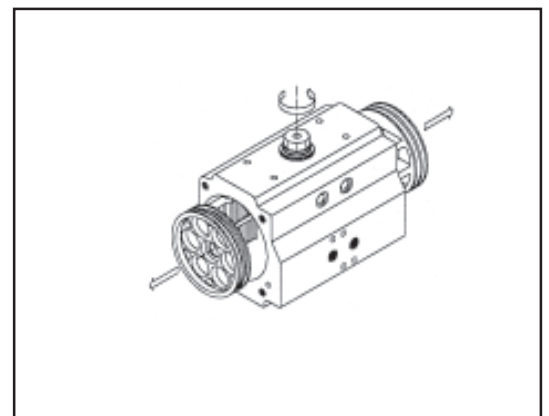
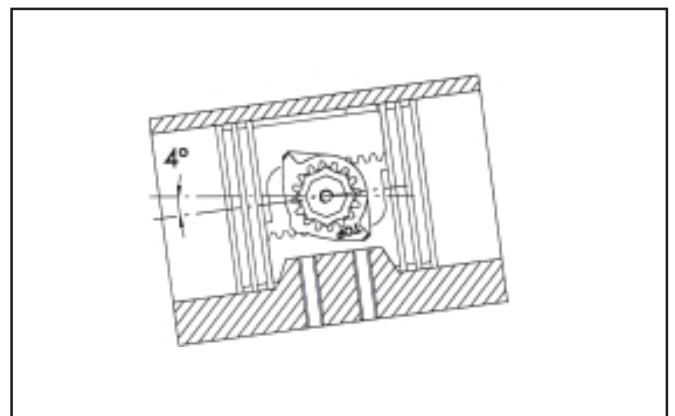
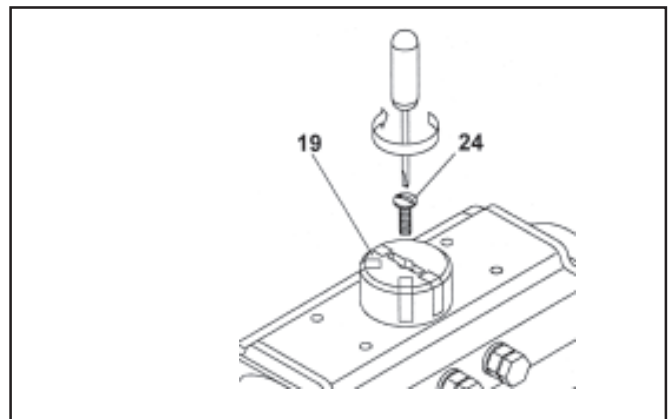

Fig. 18
Fig. 25
Fig. 30
(Figure 18)
Check fullyclosed and open positions as shown in figure 25.
(Figure 30)
- Remove position indicator (19) from stem.
- Remove both position bolts (2) with spacer (4) and nut (3).
- Remove seal rings (11).
- Remove bolts (13) from end caps.
- Remove spring sets (17) (only for spring return actuators).
- Remove end cap seal rings (14).
- Fit act. body (29) in a vice or similar, turn stem (30) until pistons (25) have left the act. body (Fig. 18)
- Turn both pistons (25) 180° around axial assle
- Press both pistons (25) in basic body (29) at the same time until piston have reached there end position
- Check that stem has turned 4° over center position (0°) (Fig. 25)
- Place spring sets (17) at pistons
- Place cap seal ring (14) on end caps (22 and 23)
- Mount end caps (22 and 23) at basic body (29)
- Mount bolts (13) at end caps (22 and 23)
- Mount both position bolts (2) with spacer (4), nut (3) and seal ring (11)
- Check both end position and adjust position bolts (2)
- Mount pos. indicator (19) in correct position (Fig. 30)
- Mount bolt (24) at stem